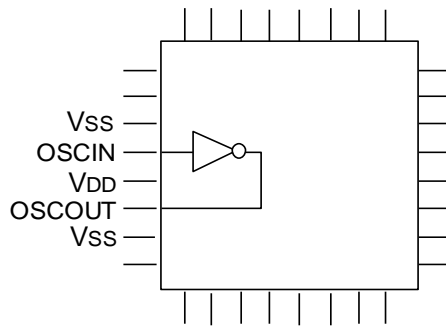

Figure 7-4 Critical Signal Pinout Example 2
- ② Place the oscillator circuit input and output pins (OSCIN, OSCOUNT) close to each other and enclose them by the power supply pins (V_{DD} and V_{SS}). Also, do not place the output pins synchronous to the oscillator circuit close to the output pins. (Figure 7-4)